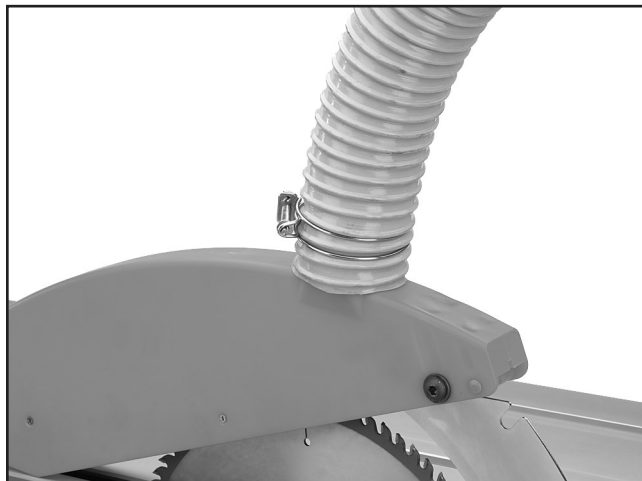

Figure 52. 2" dust port location.
3. Slide the blade guard/dust hood over the riveting knife and attach it with an M8-1.25 x 40 button head cap screw and a flat washer as shown in **Figure 52**.
4. Secure a 2½" dust hose to the dust port on the top of the blade guard as shown in **Figure 52**.